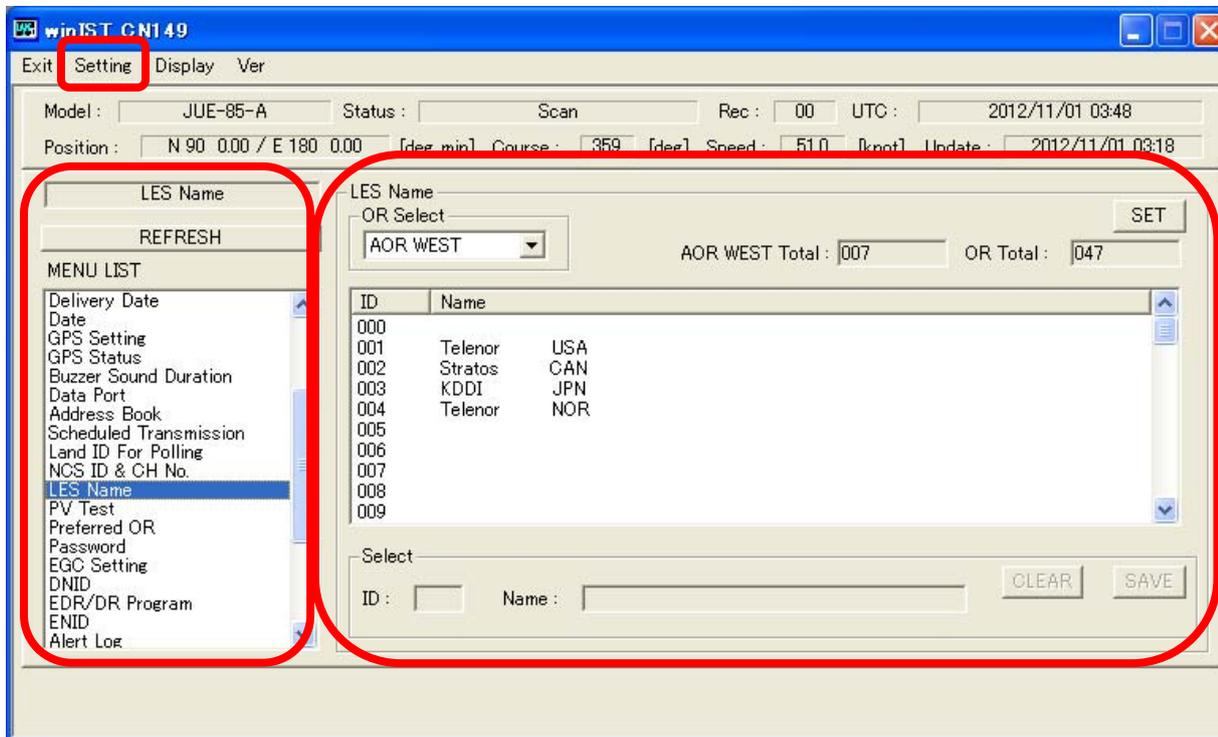

Fig. 4-21-1 [LES Name] screen
2. Operation except [Exit], [Display], and/or [Ver] is not possible while winIST is communicating with INMARSAT terminal (the function in the frame of **Fig. 4-21-1 [LES Name] screen** cannot be operated.)